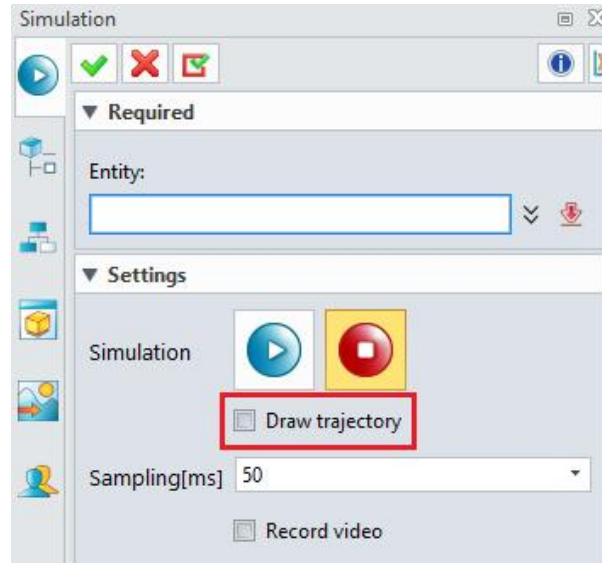

Figure 3-49: Screen recording function
- The video recording is complete. (Figure 3-49)